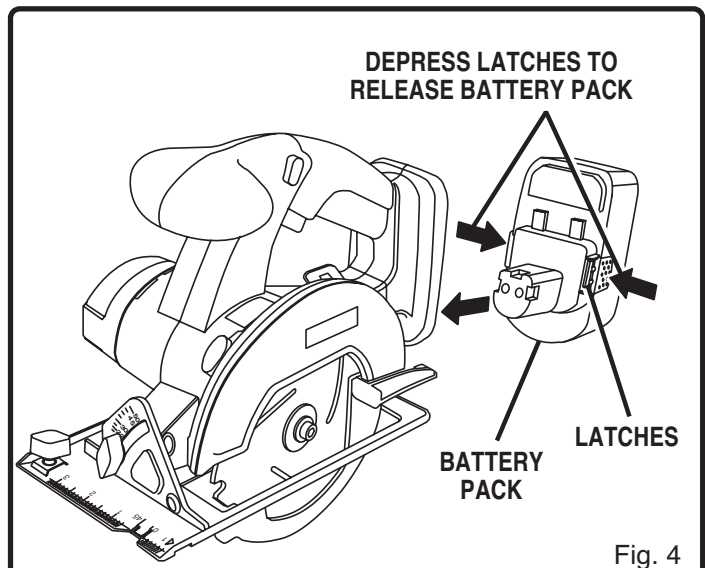

Fig. 4
- Locate latches on side of battery pack and depress to release battery pack from your saw. See Figure 4.
See Figure 4.